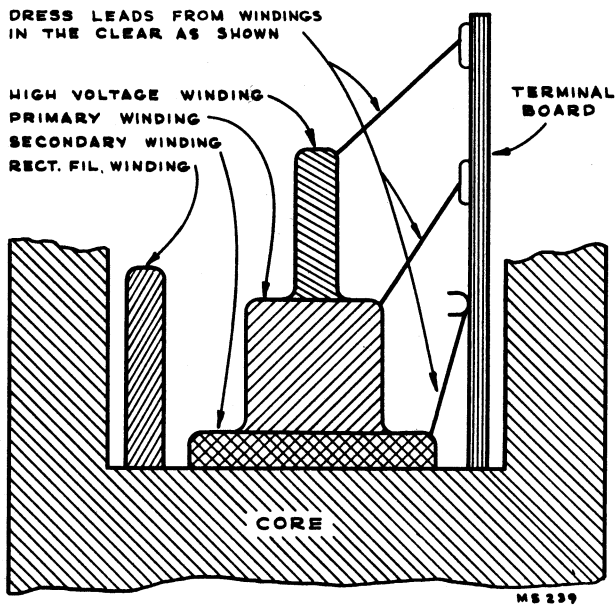

Figure 29—T109 Lead Dress
6. Dress T109 winding leads as shown in Figure 29.